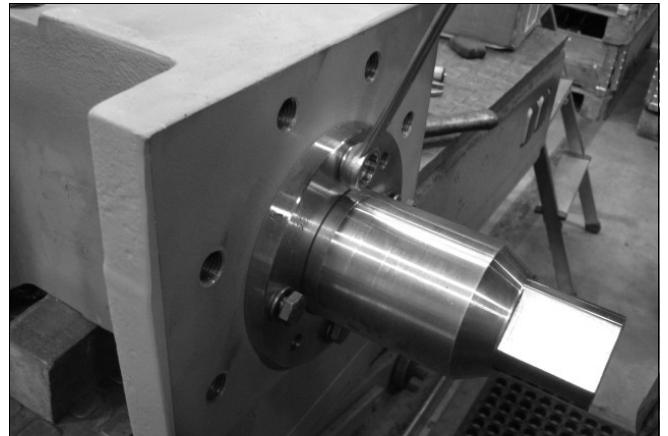

Fig. 42 Unscrewing the bolts on the sealing flange
6. Unscrew the 4 bolts at the sealing flange (actuator shaft-side) using, for example, a 19 mm ring or open-ended spanner (fig. 42). Screw the 4 bolts into the extra holes so that the sealing flange is pressed out of its seat (see fig. 43).